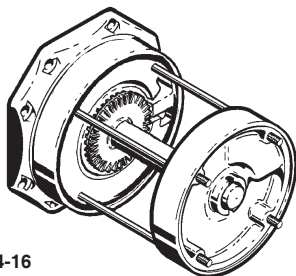

Figure 4-16
- c. With the "O" ring facing the left hand channel ring, slide the channel ring onto the guide rods. The small outlet opening should be on the same side as the pump inlet. Refer to Figure 4-16. Push
- c. With the "O"ring facing the left hand channel ring, slide the channel ring onto the guide rods. The small outlet opening should be on the same side as the pump inlet. Refer to Figure 4-16. Push on firmly until the "O" ring fits inside the lip in the left hand channel ring. Refer to Figure 4-14.